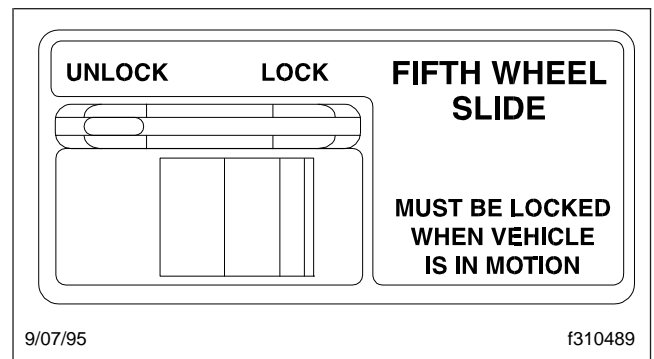

Fig. 10.18, Cab Control, Fifth Wheel Slide
- 2.1 For air-operated release models, set the cab-operated control switch (Fig. 10.18) to UNLOCK.